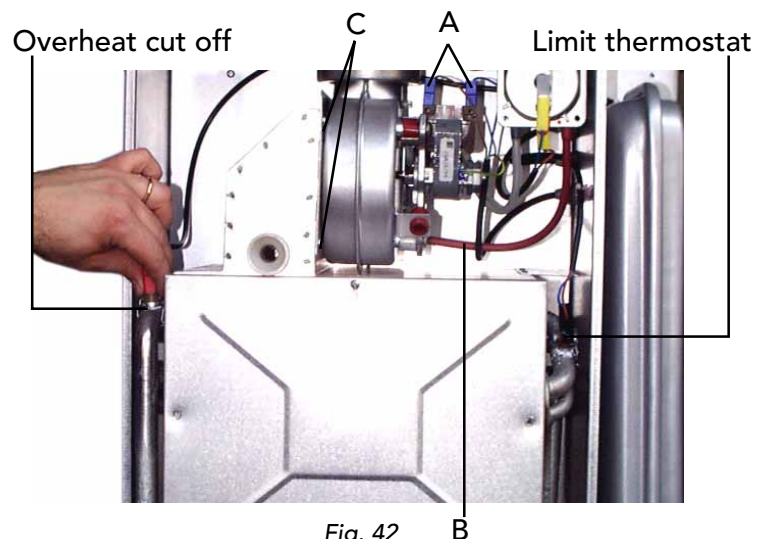

Fig. 42
## 7.10 Removal of fan (fig. 42)
## 7.11 Limit thermostat, or overheating cut off thermostat (fig. 42)
- Identify the location of thermostat from fig. 42